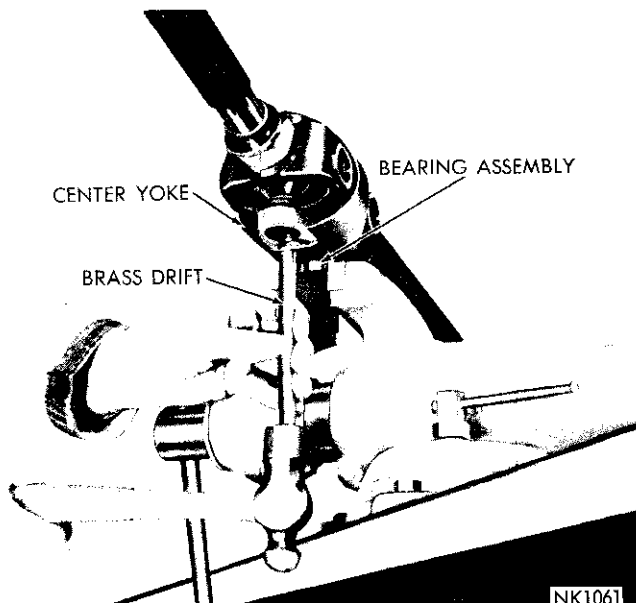
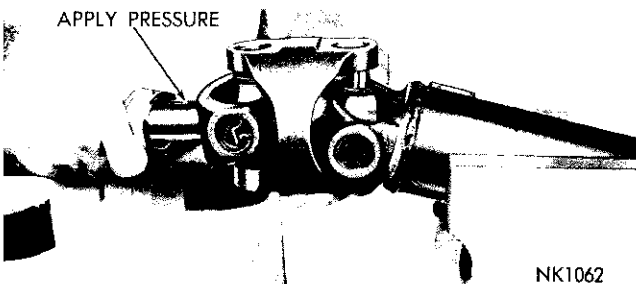

Fig. 27—Removing Bearing From Center Yoke
Fig. 28—Disengaging Center Yoke From Shaft
(5) Securely clamp the exposed bearing in the vise and drive the yoke from the bearing, using a brass drift (Fig. 27). Apply only light blows on the drift.
(6) Using the same procedure, press the exposed end of the cross to force the bearing on the opposite end approximately $\frac{3}{8}$ inch out of the yoke. Remove bearing from the yoke, using the brass drift as previously described.
(7) With the propeller shaft firmly held in the vise, press in on the yoke shaft and work the center joint off the cross (Fig. 28).